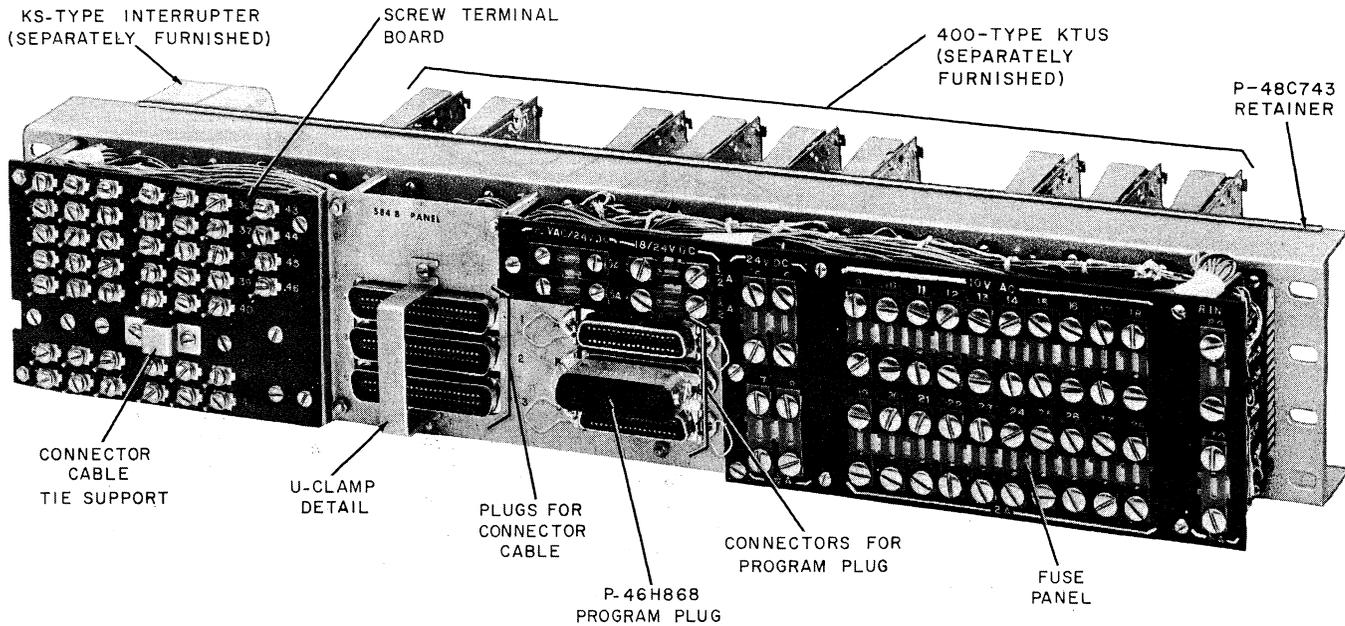

Fig. 1—584B Panel, Rear View
584B(MD) AND C PANELS (Fig. 1 and 2)
2.10 All line and station wiring is factory wired from the connectors to three 50-contact KS-type plugs numbered 1, 2, and 3 (Fig. 1 and 2) on the rear of the panel; this permits use of A-type connector cables for line and station terminations.
2.13 The 584C panel features a combined fuse panel and screw terminal field while the 584B panel has a separate fuse panel and screw terminal field (Fig. 1). The panels are equipped with 24-type fuses grouped according to potential and rating. The 44-type indicator fuses may be substituted; bushings for 1/2, 1-1/3, or 2-amp fuse, and P-142332 bushing for a 5-amp fuse. There are no provisions for fuse alarm signals.
2.17 The three 34-contact connectors on the 584B panel lettered A, B, and C (Fig. 1) serve as receptacles for the factory-wired lamp fusing and programming options. One 18-contact connector, J15, (Fig. 4) is used for the same purpose in the 584C panel. These permit distribution and fusing of lamp circuits, either within or external to the panel. One program option plug (P-46H868) is furnished with each 584B panel and one combined Program A/Program C plug (P-44Y295) is furnished with each 584C panel.